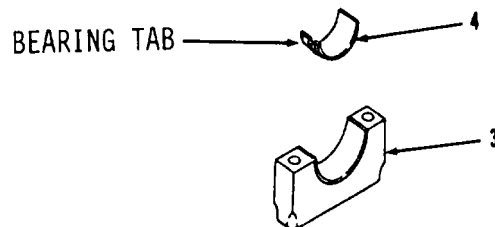

Figure 13-20.
1. Coat three new lower main bearings (4, Figure 13-20) with clean engine oil.
2. Install in crankshaft bearing caps (3) with bearing tab toward tab locator in block.